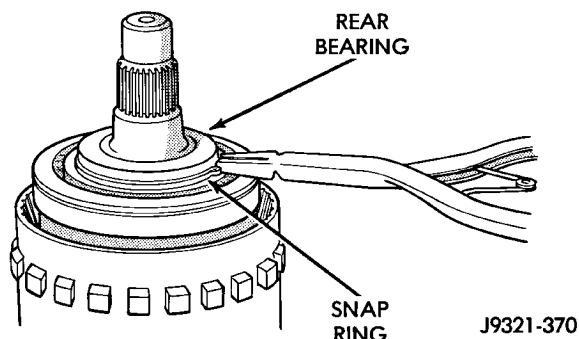

Fig. 225 Rear Bearing And Snap Ring Installation
(7) Install rear bearing and snap ring on output shaft (Fig. 225). Be sure locating ring groove in bearing is toward rear.